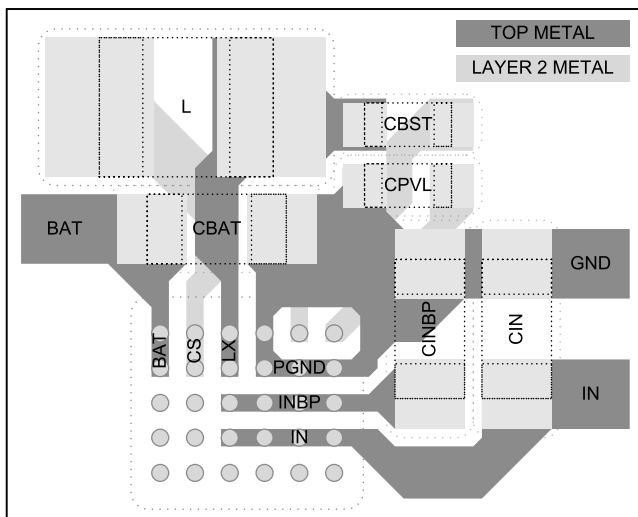
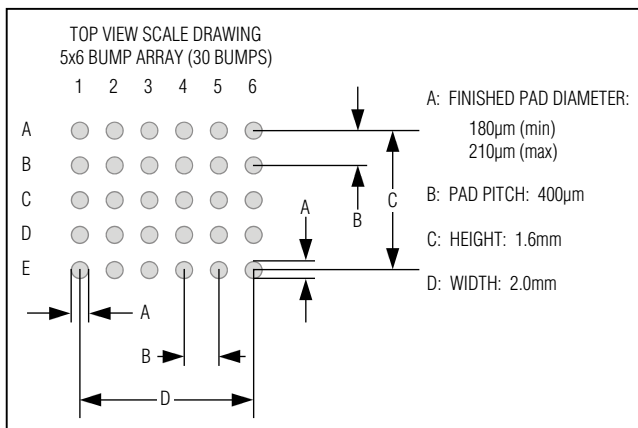
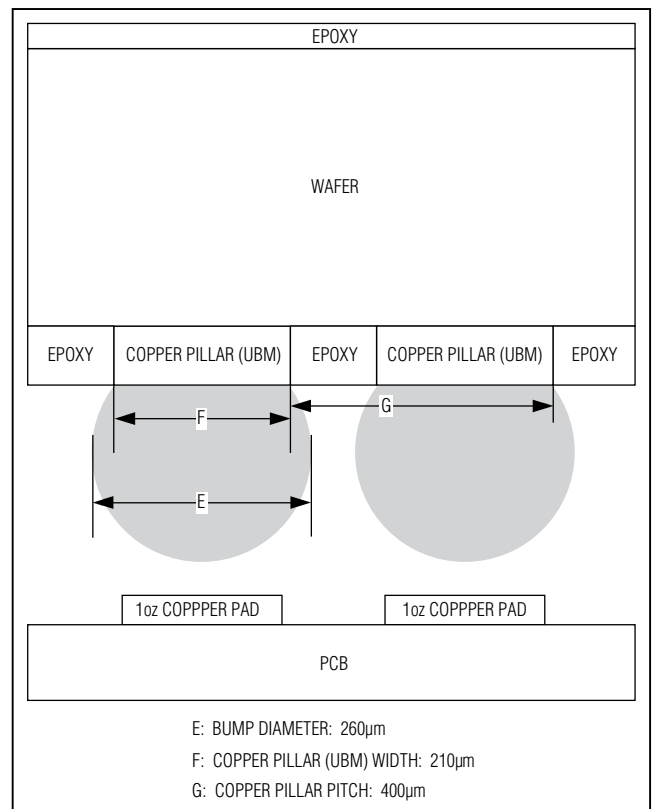
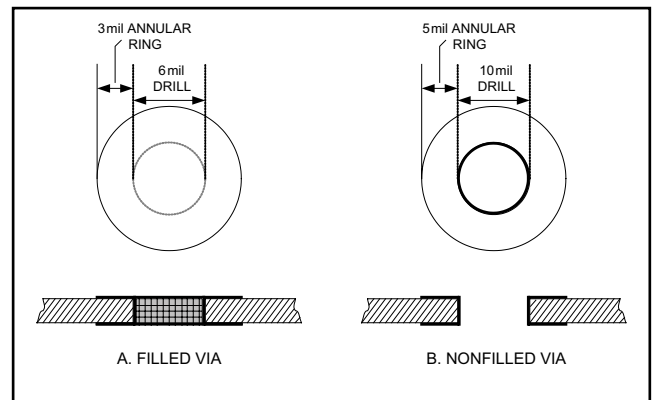

Figure 4. Power PCB Layout Example
Figure 5. Recommended Land Pattern
Figure 6. Bump Cross Section and Copper Pillar Detail
Figure 8. Via Details
The MAX8900_ wafer-level package (WLP) and bump configuration allows for a small-size, low-cost PCB design. Figure 4 shows that the 30 bumps on the MAX8900_ WLP are combined into 18 functional nodes. The bump configuration places all like nodes adjacent to each other to minimize the area required for routing. The bump configuration also allows for a layout that does not use any vias within the WLP bump matrix (i.e., no micro vias). To utilize this no-via layout, \overline{CEN} is left unconnected and the STAT3 pin is not used (2-pin status version). Note that although layouts without micro vias are possible, this EV kit uses filled micro vias that are on the WLP pads of the MAX8900A (A2, A5, A6, B2, C2, D2, and E6). These filled micro vias on pads were used to showcase the small solution size.
Figure 5 shows the recommended land pattern for the MAX8900_. Figure 6 shows the bump cross section of the MAX8900_ under-bump metal (UBM). The diameter of each pad in the land pattern is close to the diameter of the UBM. This land pattern to UBM relationship is important to get proper reflow of each solder bump. Note that although layouts without micro vias are possible, this EV kit uses filled micro vias that are on the WLP pads of the MAX8900A (A2, A5, A6, B2, C2, D2, and E6). These filled micro vias on pads were used to showcase the small solution size.
Careful printed circuit layout is important for minimizing ground bounce and noise. Figure 4 is an example layout of the critical power components for the MAX8900_. The arrangement of the components that are not shown in Figure 4 is less critical. Figures 8–10 show the entire layout of the MAX8900A EV kit and Table 6 shows the EV kit construction attributes. To ensure a successful layout for the MAX8900A, use the following list of guidelines and refer to Application Note 1891: *Wafer-Level Packaging (WLP) and Its Applications*, which is available at www.maximintegrated.com.
- 5) In Figure 4, the CS node is connected to the second layer of metal with vias. Use low-impedance vias capable of handling 1.5A of current. Also, keep the routing inductor current path on layer 2 just underneath the inductor current path on layer 1 to minimize impedance.
- 6) Both C_{BST} and C_{PVL} deliver current pulses for the MAX8900_'s MOSFET drivers. These components should be placed as shown in Figure 4 to minimize parasitic impedance.
In Figure 4, many of the top-layer bump pads are connected together in top metal. When connecting bumps together with top-layer metal, the solder mask should define the pads from 180 μ m to 210 μ m, as shown in Figure 5. When using solder-mask defined pads, double-
| VIA UNDER WLP: | 6 mil drill and 3 mil annular ring on top and bottom layers, filled via (Figure 8) |
| VIA ON REMAINING AREA OF PCB: | 10 mil drill and 5 mil annular ring on top and bottom layers (Figure 8) |